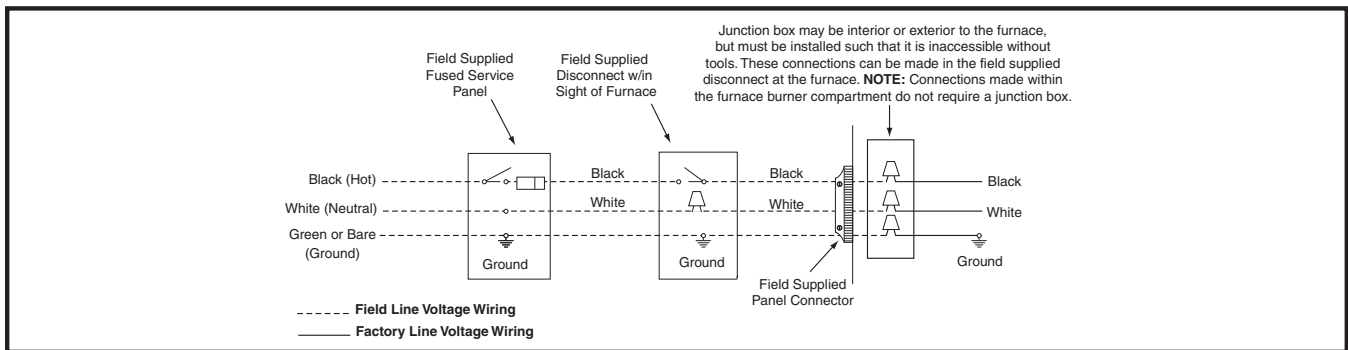
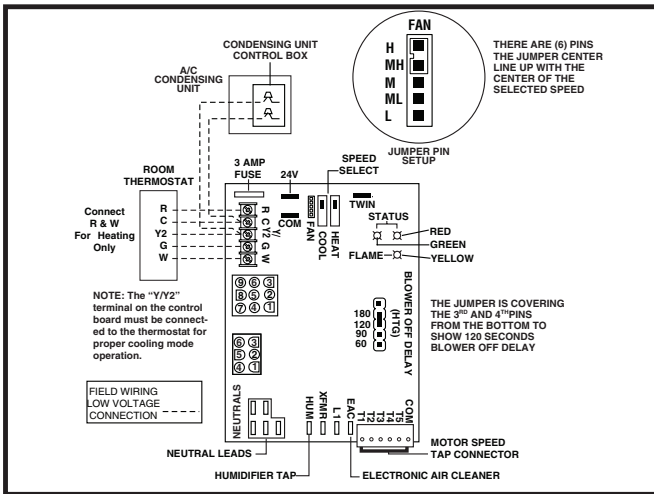

Figure 41. Line Voltage Field Wiring
Figure 42. Nordyne Channel Board
- ✓ Verify the jumper on the or dipswitch for fan speed on the the control board. To select fan speed, see Figure 41 and Figure 42 \(page 31\) and set the jumper on the control board.